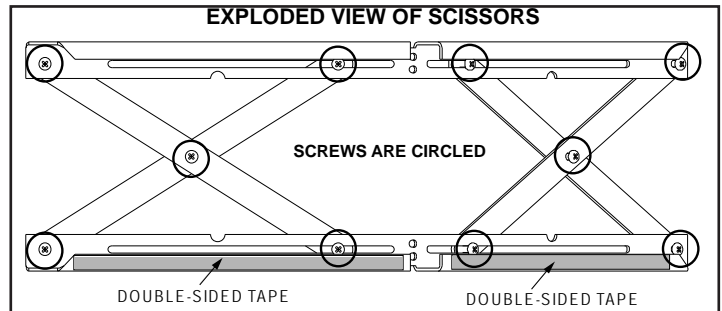

Figure 23.1
1. The 10 screws on each set of scissors will already be loose when shipped. **Figure 23.1.**
- Open Start-Up Air Control (right control) and Primary Air Control (center control under ashlip) fully. **Figure 23.1 on page 23.**